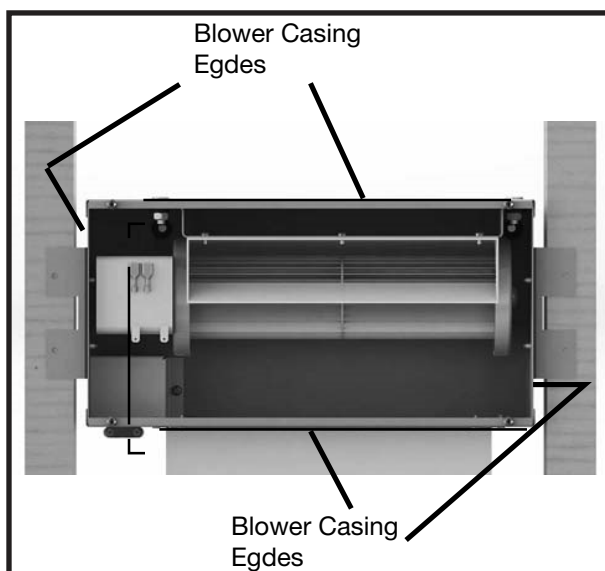

Figure 25: Blower details.
6. Attach the 10"(254) X 3 1/4"(83mm) Transition Boot to the Remote Blower Assembly and seal with aluminium duct tape. Run 6" diameter approved Type "B" flexible or ridged gas vent pipe (vent pipe is not included with this kit) between the blower and the fireplace. Fasten in place with screws and seal with aluminium foil tape.
9. Drywall and facing material must not cover the opening in the blower assembly. Remove the Face Plate. Cut the drywall so the edges butt up against the outside of the blower casing edges (Figure 25), top, bottom and sides.